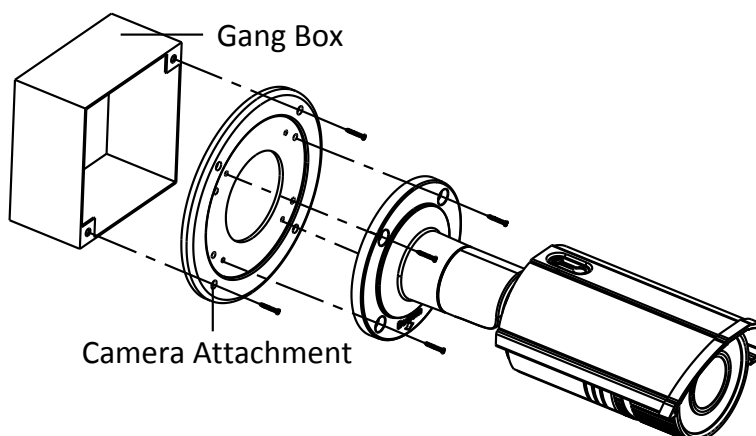

Figure 5-31 Secure the Camera
3. Secure the camera to the camera attachment with screws. Refer to the Figure 5-31.